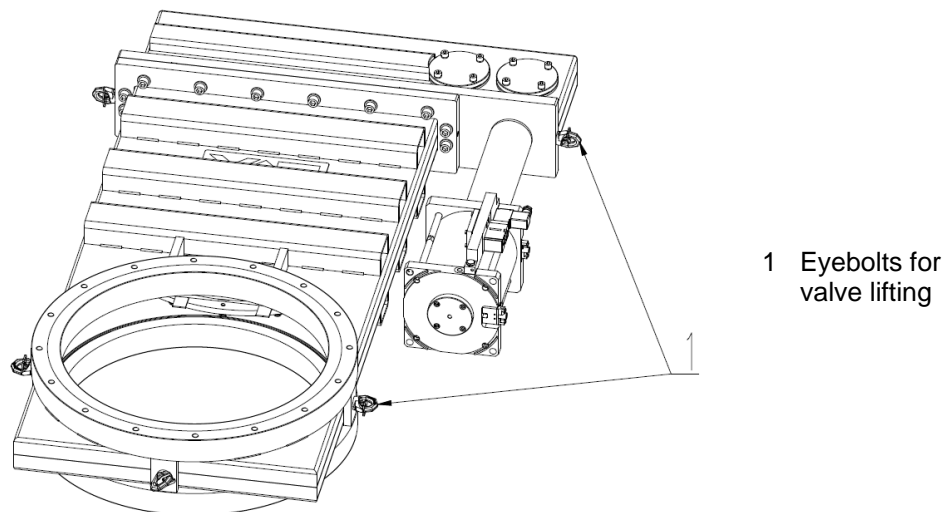

Figure 4-1
The valve can be lifted only at the five eyebolt threads; see «Figure 4-1» below.
3. Lift the valve to the mounting position, use only the five eyebolts; see «Figure 4-1» on page 8.